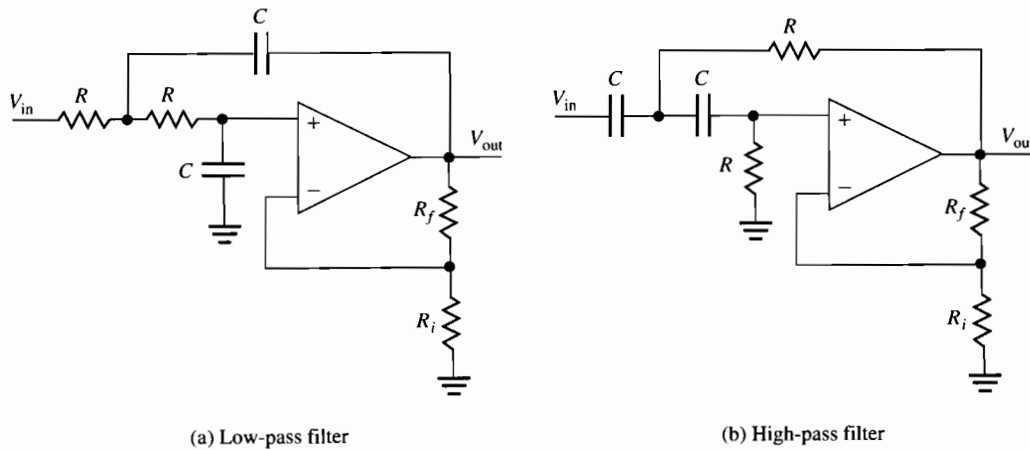

Figure 48-1
- (b) Choose R and C values for the desired cutoff frequency. These components are labeled R and C on Figure 48-1. The resistors should be between 1 k Ω and 100 k Ω . The values chosen should satisfy the cutoff frequency as given by the equation